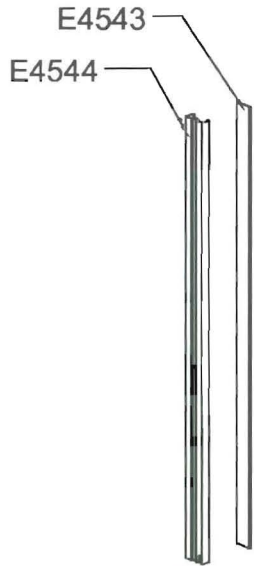

Figure 1
1. Attach header (and transom if required) with provided screws into the splines. See Figure 1.
1. Snap together E4543 and E4544 for both vertical jambs. See Figure 1.
1. Snap together E4543 and E4545 for both vertical jambs. See Figure 1.